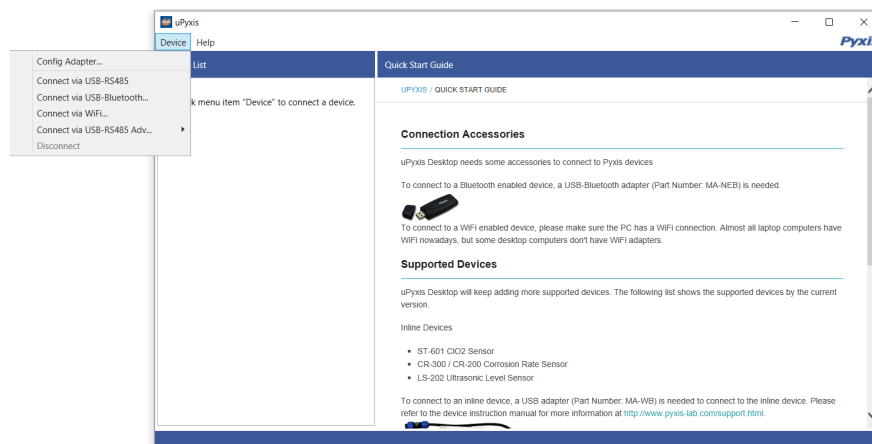

Figure 13.
3. On uPyxis® Desktop App, click Device→ **Connect via USB-Bluetooth** (Figure 13)
4. If the connection is successful, the ST-588 and its Serial Number (SN) will be displayed in the left pane of the uPyxis® window.